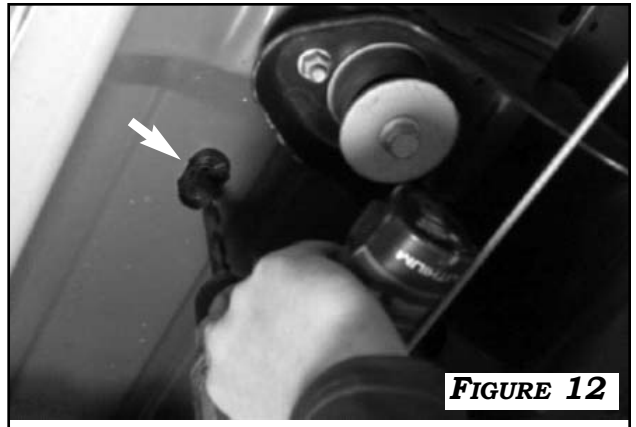

FIGURE 12
1. ROUTE THE CAMERA EXTENSION HARNESS TO SCUFF PLATE AREA AND THROUGH THE ACCESS GROMMET UNDERNEATH CARPET. DRILL HOLE TO FEED CAMERA EXTENSION HARNESS THROUGH GROMMET. **FIGURE 12**. USE THE EXISTING WIRING WITH WIRE CLIPS TO SECURE HARNESS. CONTINUE ROUTING THE HARNESS ALONG THE FRAME WIRING BELOW VEHICLE AND TO TAILGATE AREA. USE WIRE TIES TO SECURE HARNESS.